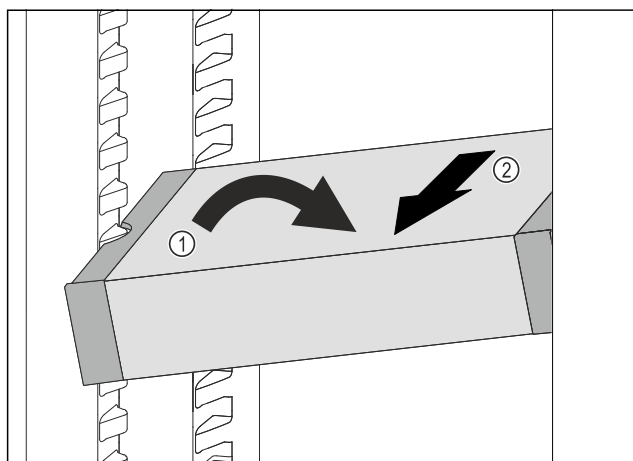

Fig. 83
- Set VarioSafe in refrigerator compartment at an angle. Fig. 83 (1)
- Take VarioSafe out to the front. Fig. 83 (2)